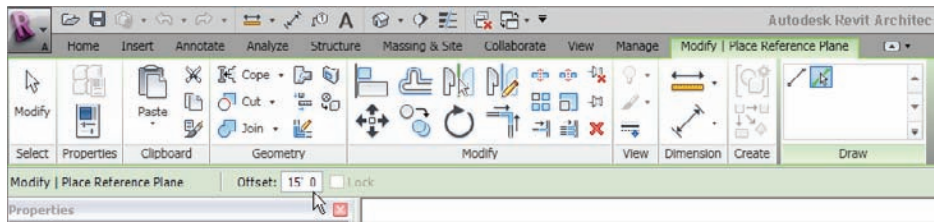

FIGURE 2.4 Offsetting a reference plane
8. On the Draw panel, click the Pick Lines icon, as shown in Figure 2.4.
9. Set Offset to 15'-0" (4500mm) (Imperial users, remember, you can just type 15), as shown in Figure 2.4.